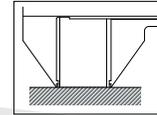

Fig.2
- Vertical vernier caliper is set zero to on plate(Fig.2). Vertical vernier jaw and horizontal vernier jaws contact the plate, press '0' button to set zero.